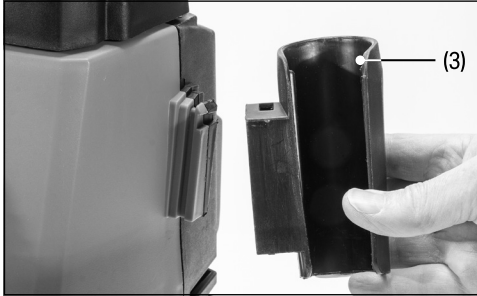
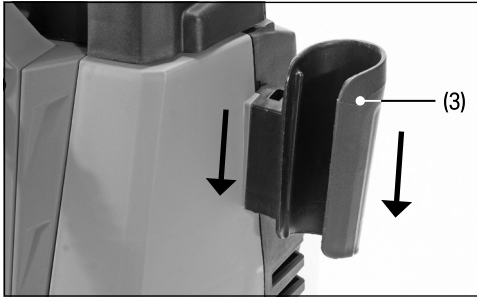

Fig. 1
Fig. 2
6.1 Fitting the Lance Holder (Fig.1 – Fig.2)
- Fit the lance holder (3) to the location point, then slide down to secure.